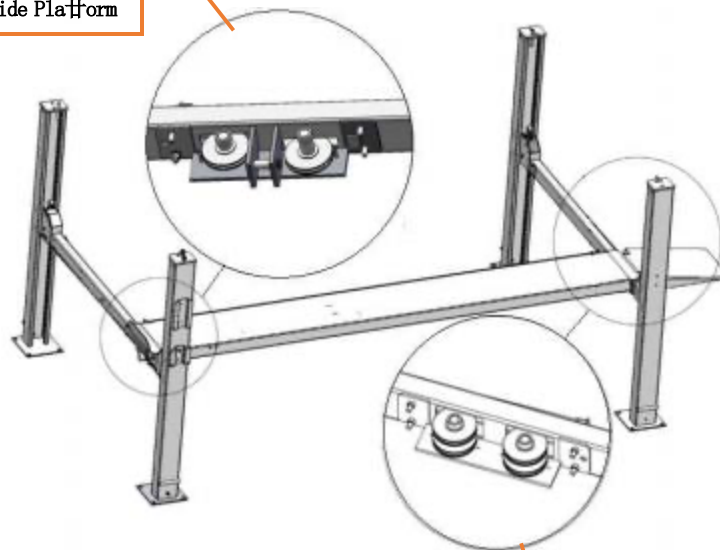

Figure 16
7. Move the Crossbeam outwards until the pulleys of both platforms can be rested into the Crossbeams' slots (see Fig.16).